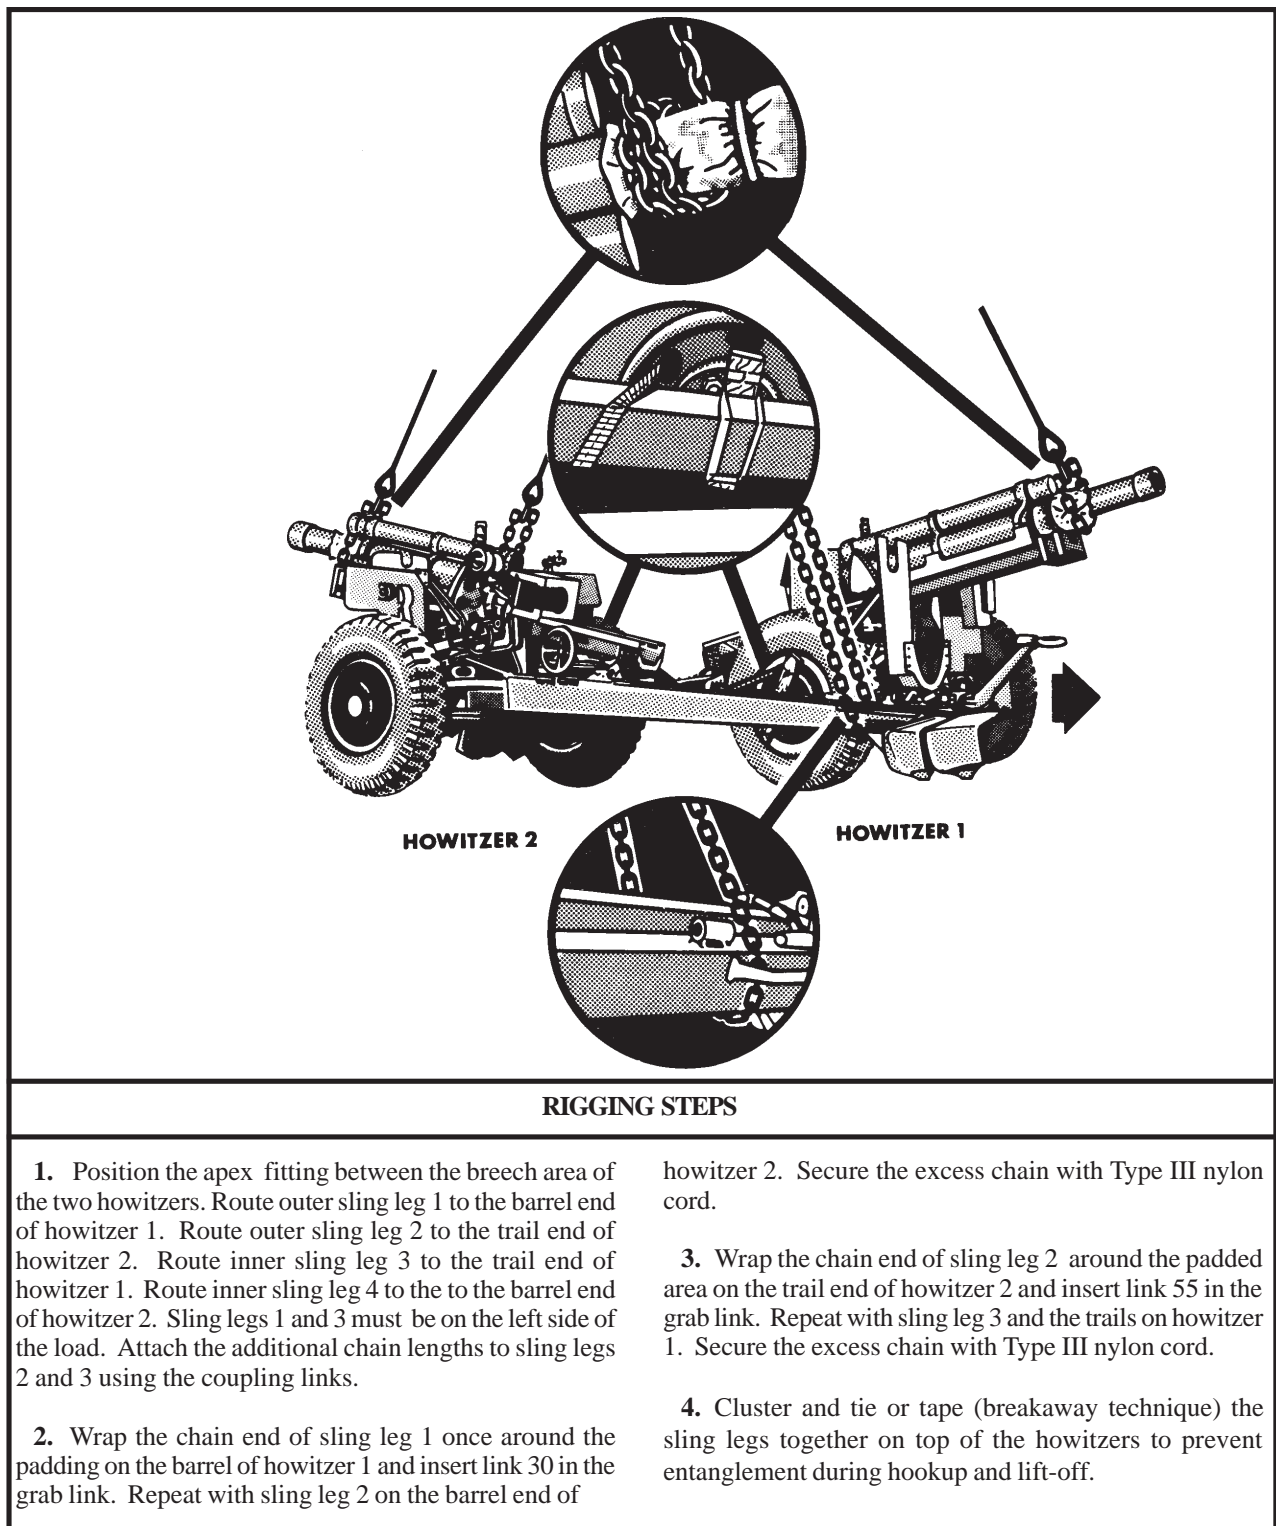

Figure 6-11. Two M101A1 155-MM Howitzers
(2) **Rigging.** Rig the load according to the steps in Figure 6-11.
(4) **Derigging.** Derigging is the reverse of the preparation and rigging procedures in steps d (1) and d (2).